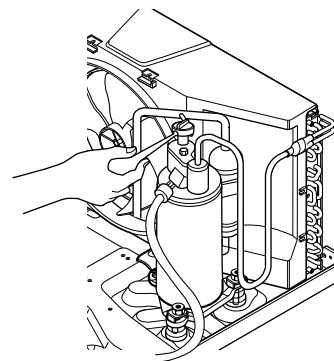

Figure 23
3. Remove the terminal cover. (See Figure 23)